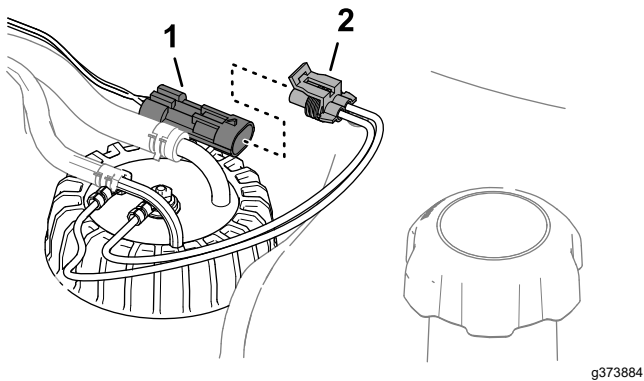

Figure 124
3. Remove the 2-socket connector of the fuel-sender harness from the 2-pin connector of the machine wire harness (Figure 124).